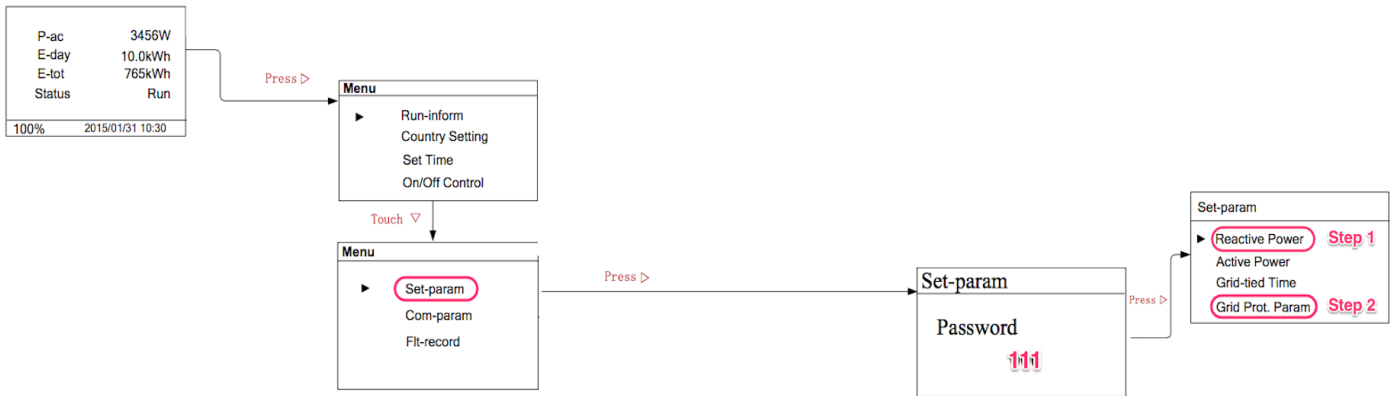
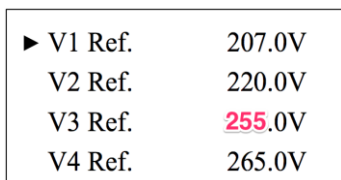
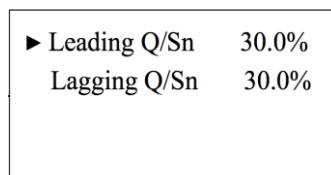
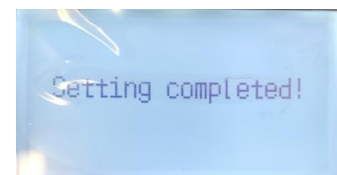

Figure 1 Menu Tree
Figure 4 Pmax Parameters
Figure 5 Q/Sn Parameters
Figure 6 Setting completed
**10 Minutes Overvoltage Setting:** To modify the sustained operation for voltage variations setting. Navigate to **Set-param** (Figure 1) → Enter **111** → Navigate to **Grid Prot. Param** → Select **ON** → Adjust the **10 min Vtg** to **258.0 V** (Figure 2) → **Setting completed** will then be displayed on the screen (Figure 3).
**Volt-Watt Response Setting:** To modify the volt-watt response setting, navigate to **Set-param** (Figure 1) → Enter **111** → Select **Reactive Power** → Select **Qu** → Adjust **V3 Ref.** value to **255.0 V** (Figure 4) → Leave **Lower Q/Sn** and **Upper Q/Sn** as **default** (Figure 5) → **Setting completed** will then be displayed on the screen (Figure 6).